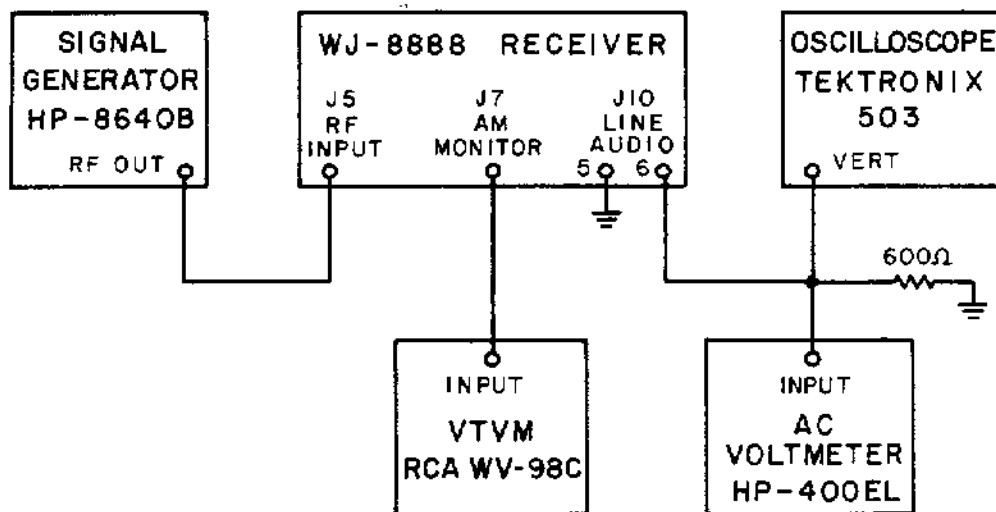

Figure 5-6. Test Setup, IF Gain and AGC Tests
(1) Connect the equipment as shown in Figure 5-6.